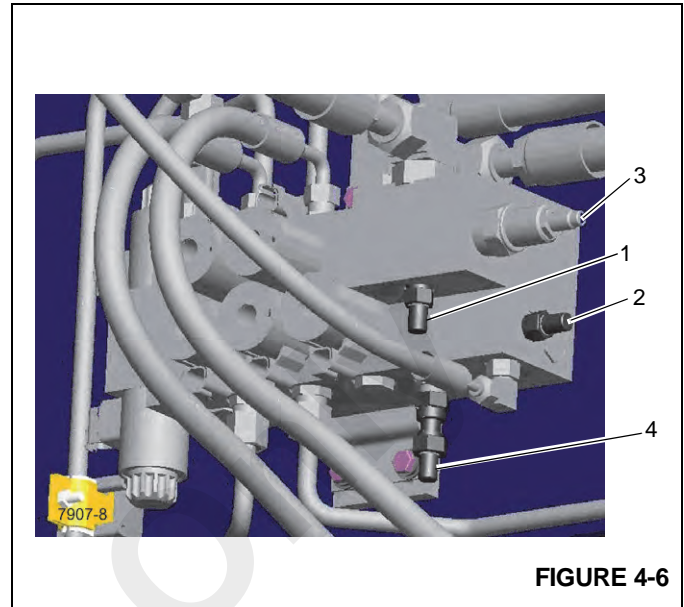

FIGURE 4-6
1. With the engine shut off, install a 0 - 344.73 bar (0-5000 psi) pressure gauge on the test port G1 (1, Figure 4-6).
1. With the engine shut off, install a 0 - 344.73 bar (0-5000 psi) pressure gauge on the test port (1, Figure 4-6).
1. Install a 0 - 344.73 bar (0-5000 psi) pressure gauge on the load sense test port (2, Figure 4-6) located on the front outrigger manifold.
1. With the engine off, install a 0 - 344.73 bar (0-5000 psi) pressure gauge on the load sense test port (2, Figure 4-6).
1. Shut off the engine. Install a 0 - 344.73 bar (0-5000 psi) pressure gauge to the front outrigger manifold test point (4, Figure 4-6).
- a. Loosen the jam nut on the outrigger relief valve (3, Figure 4-6) at the front of the machine on the front outrigger housing weldment. A 19 mm open end wrench is required for the jam nut.